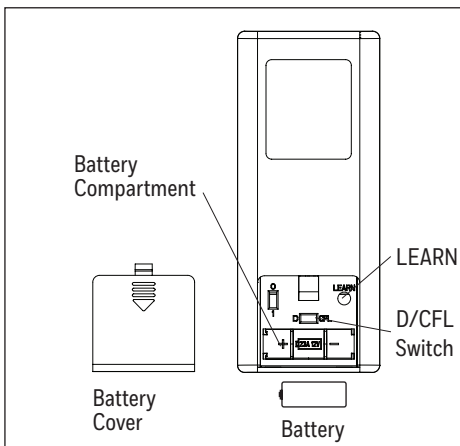

Figure 5.1
1. Use a flat-head screwdriver, if necessary, to remove the battery cover from the back of the remote found in remote pack. Insert the battery into the remote; ensure polarity of battery matches the polarity indicated in the battery compartment -- positive (+) to positive (+) and negative (-) to negative (-). Replace the battery cover and press the fan on/off button on the remote to ensure the LED indicator illuminates and the remote turns on the fan (Figure 5.1). **Note:** If remote doesn't turn on the fan, see TROUBLESHOOTING (page 9).